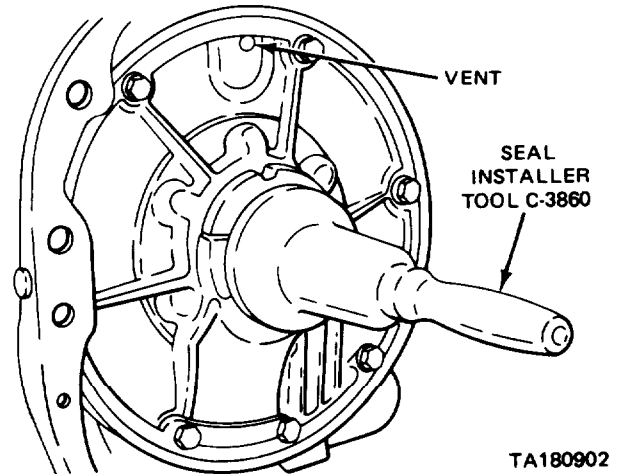

Figure 4-41. Installing pump Oil Seal.
- (3) Apply sealer to the outer diameter of the new seal.
- (4) Place a new seal in the opening of the pump housing with its lip facing inward. Use tool C-3860 to drive the seal into the housing until the tool bottoms (figure 4-41).